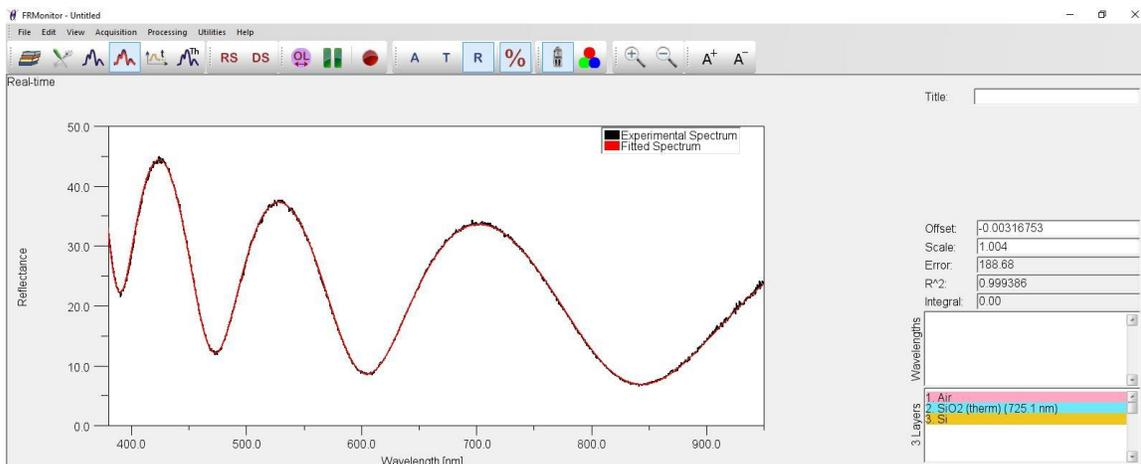

Figure 3 Experimental and fitted reflectance spectrum as seen on Fit View.
7. Click on the **Fit** button (No 15). The fitting process will take place. If the fitting is successful, the minima and the maxima of the calculated reflectance (the **red line** on graph) will coincide in wavelength with the minima and maxima of the measured reflectance (the **dark line** on graph). The measured film thickness and the information of the fitting process will be displayed on the right side of the main window, see figure 3.